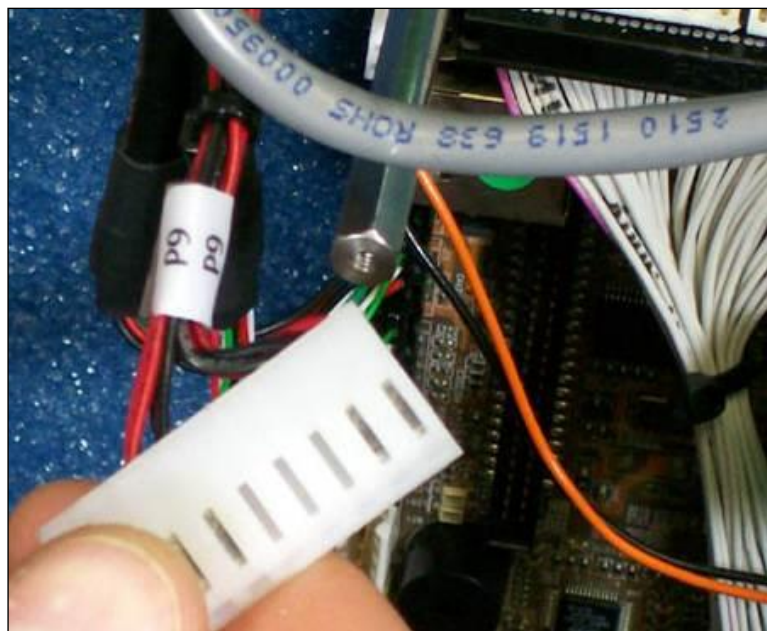

Figure 136. Disconnect connector P9
5. Disconnect connector P9 (from the main harness) from the computer. P9 connects to port J30 on the top-left of the computer (Figure 136).